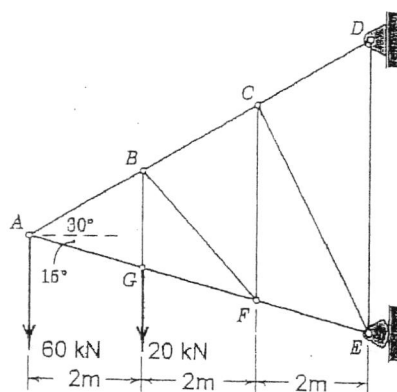

Fig. Q.3.
3. Determine the magnitude and nature of force in the member BF of the loaded truss shown in Fig. Q.3. 12